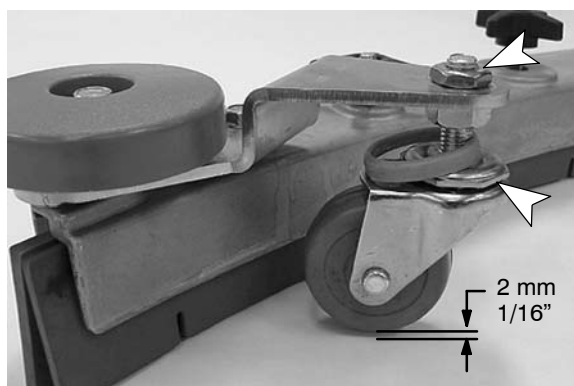

FIG. 63
1. To check the squeegee assembly for proper adjustment, remove the squeegee assembly from the machine and place it on a level surface. Measure the distance between the caster and the surface. It should measure approximately 2 mm (1/16") (Figure 63).
2. To adjust the caster height, loosen the top nut and remove the plastic bearing cover to access the adjustment nut. Turn the adjustment nut until properly adjusted (Figure 63). After adjusting, tighten the top nut and replace the plastic bearing cover. Repeat step for the other caster.